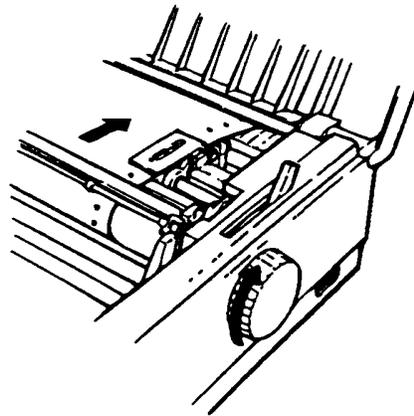

Figure 5-11. Paper Installed and Main Tractor Covers Closed
- 11.9. Close the main tractor covers, and advance the paper to the printing position. See Figure 5-11.